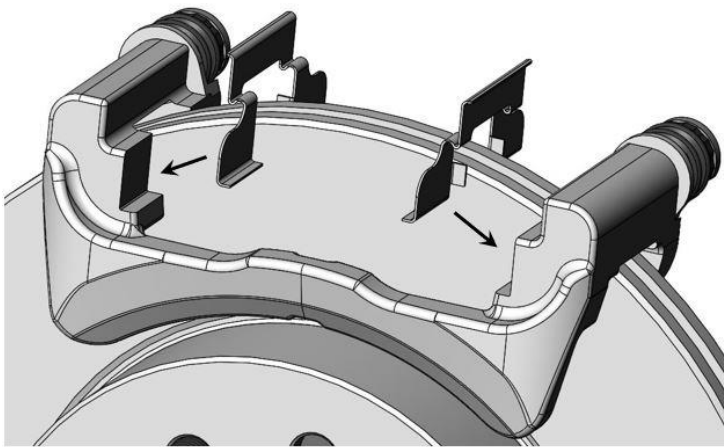
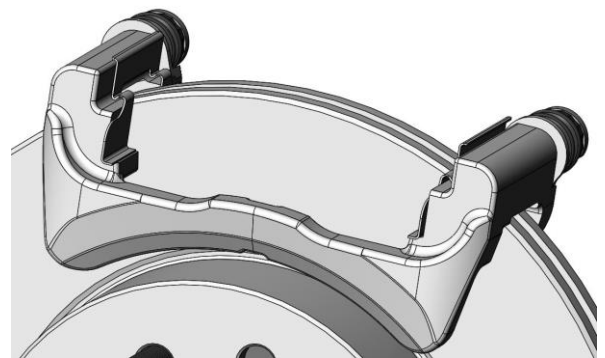

Figure 8a – Abutment Clips Installation
Figure 8b – Abutment Clips Installed
11. Place the Stainless Steel Abutment Clips into the Caliper Anchor Bracket at this time. Refer to Figure 8a and Figure 8b Below for installation reference.